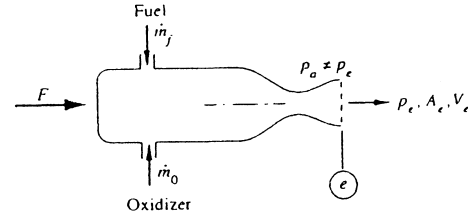

Fig. P3.68
3.68 The rocket in Fig. P3.68 has a supersonic exhaust, and the exit pressure p_e is not necessarily equal to p_a . Show that the force F required to hold this rocket on the test stand is $F = \rho_e A_e V_e^2 + A_e(p_e - p_a)$. Is this force F what we term the *thrust* of the rocket?